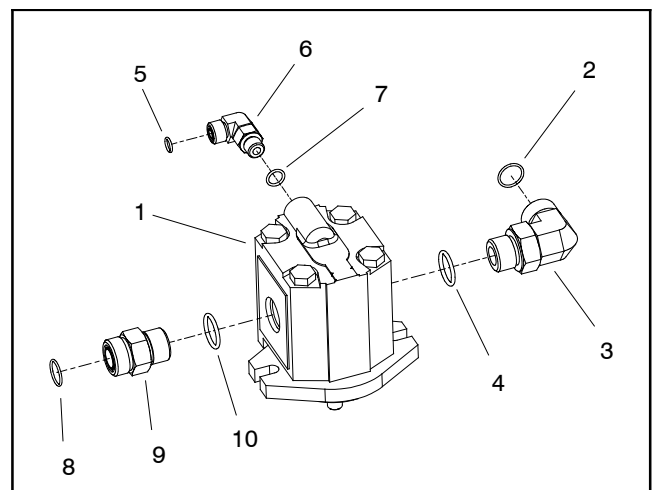

Figure 93
7. If hydraulic fittings are to be removed from motor, mark fitting orientation to allow correct assembly. Remove fittings from motor and discard O-rings (Fig. 93).